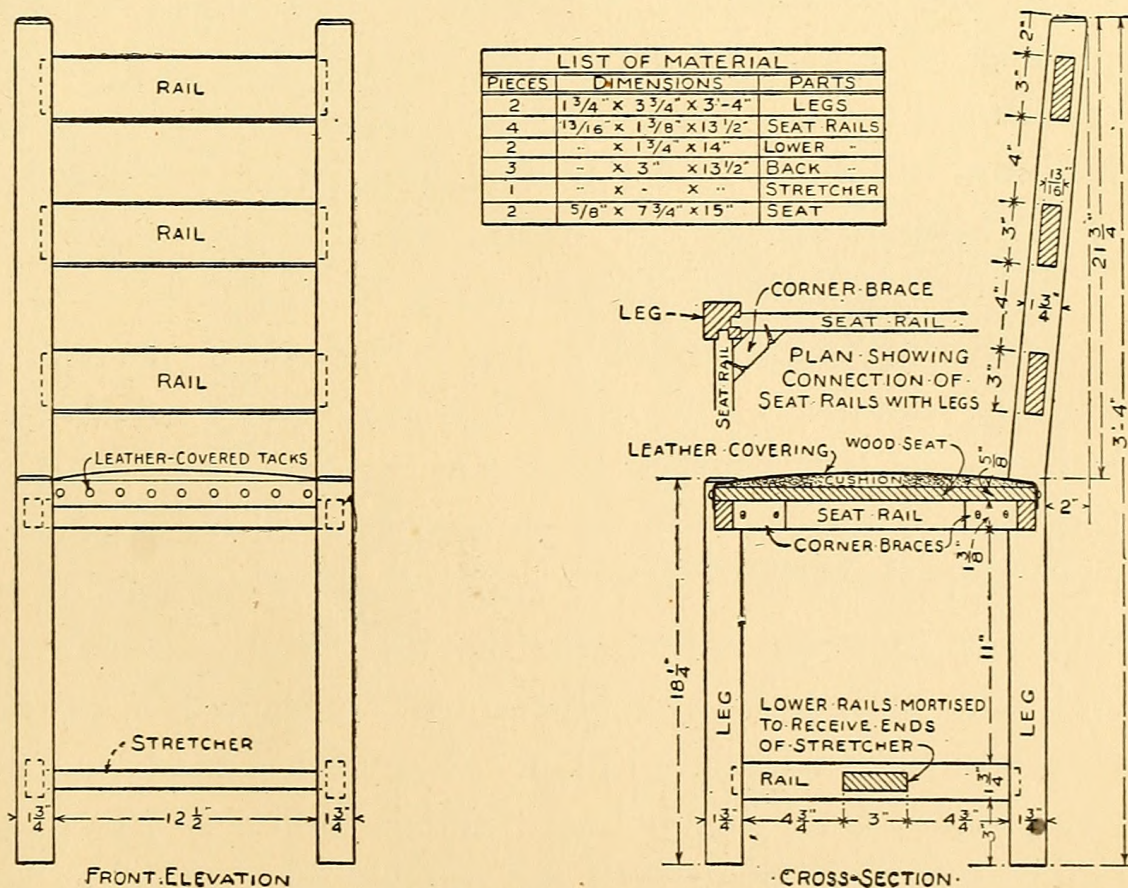

FIG. 144. — Details of Mission Chair shown in Fig. 140.
**A Mission Chair**, and Fig. 144 includes the necessary working details. The front legs may be cut from the waste piece left after cutting out the back legs; bevel the tops of these pieces as shown. The legs are mortised  $\frac{1}{2}$  inch to receive the ends of the rails, the lower rails are mortised  $\frac{1}{2}$  inch for the ends of the stretcher, and the seat rails are braced with corner blocks, as shown in the small detail plan. The seat is made out of two pieces of an 8-inch board and is nailed to the tops of the seat rails flush with the outside face of the rails.